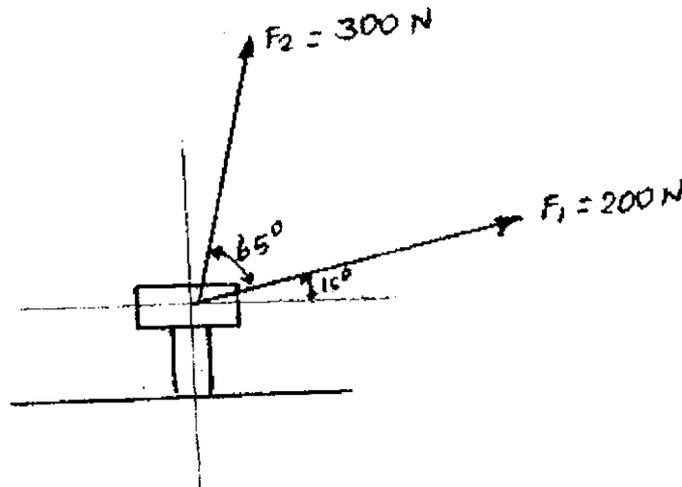

Fig.1
11. (a) (i) Determine the magnitude and direction of the resultant of the two forces acting on the bolt shown in Fig. 1. (6)